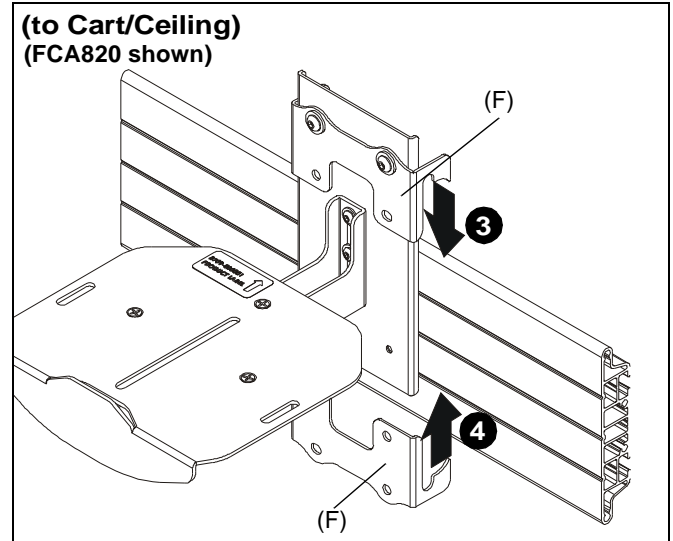

Figure 3
3. Place center holder (F) on top of cart interface. (See Figure 3)
4. Place second center holder (F) underneath cart interface so that mounting holes are aligned. (See Figure 3)